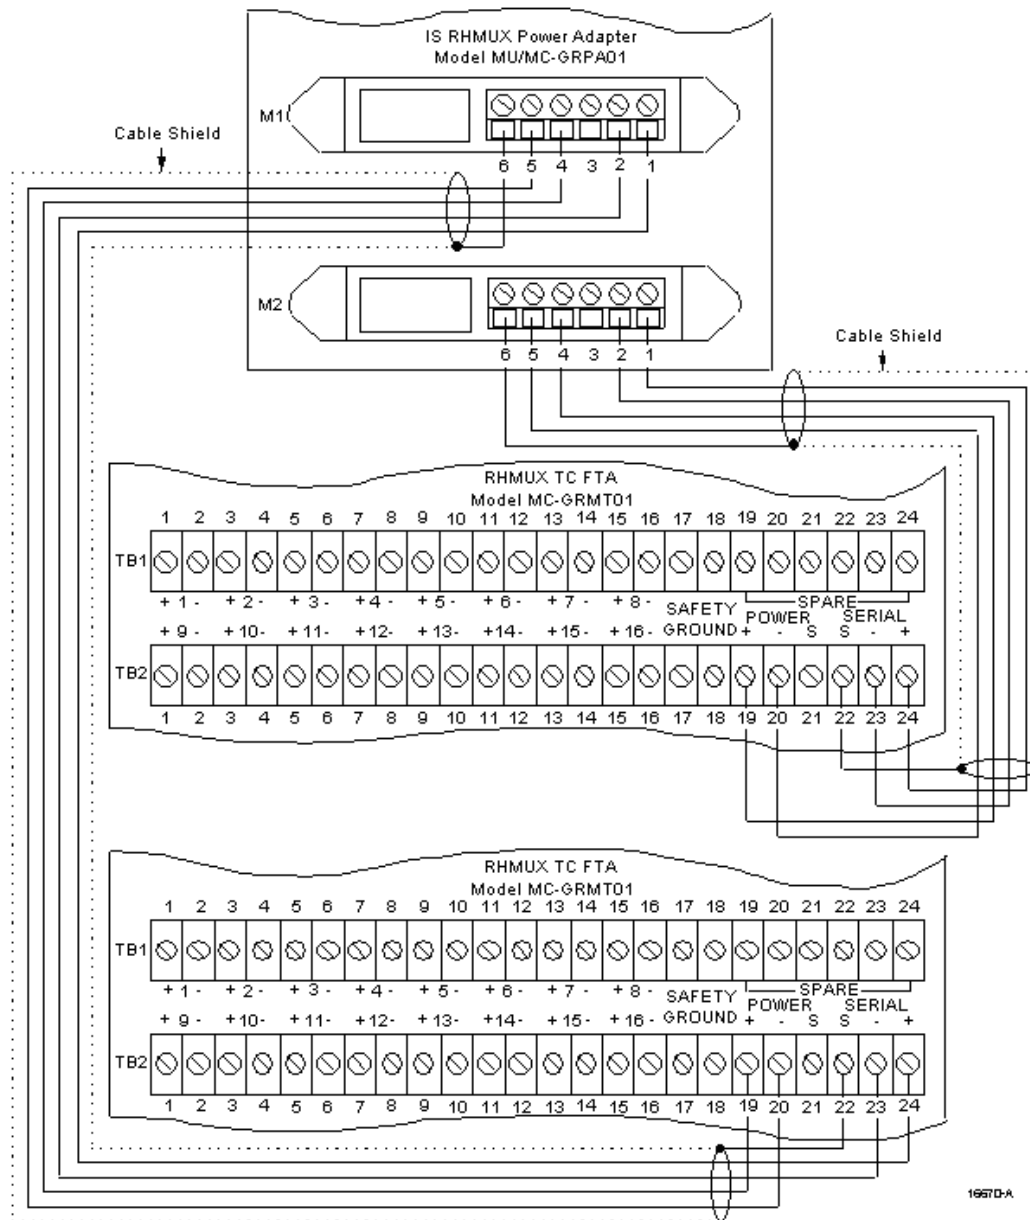
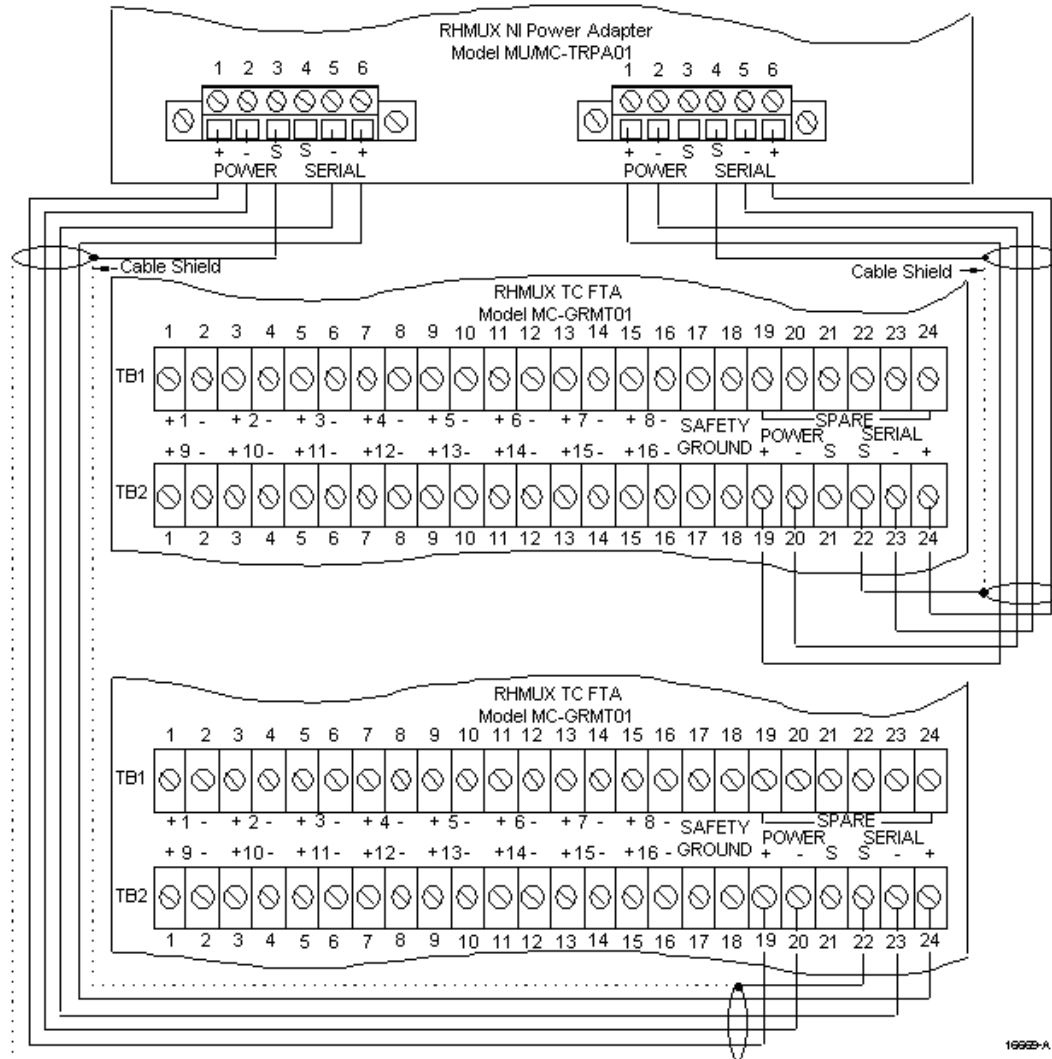

Figure 33 RHMUX IS Power Adapter to FTA Cabling
Figure 34 RHMUX NI Power Adapter to FTA Cabling
For a non-CE Compliant or CE Compliant applications, the shield of the cable between the Power Adapter and FTA must be connected to Shield Ground (S) at both ends of the cable. The wire and shield connections are made by using the compression terminals in a 6-terminal connector on the Power Adapter and the screw terminals on the FTA as illustrated in Figure 33 and Figure 34.
For a non-CE Compliant or CE Compliant applications, the shield of the cable between the Power Adapter and FTA must be connected to Shield Ground (S) at both the Power Adapter and FTA ends of the cable. The connections are made by using the compression terminals in a 6-pin connector at Power Adapter end of the cable and the screw terminals on the FTA as illustrated in Figure 33 and Figure 34.
Figure 33 illustrates cabling between the Intrinsically Safe Power Adapter and the FTA.
Figure 34 illustrates cabling between the Non-Incendive Power Adapter and the FTA.